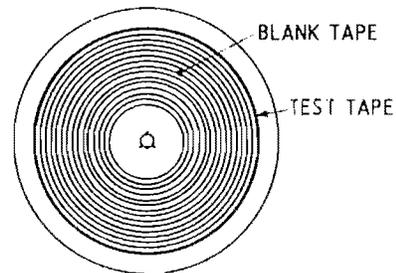

Fig. 7-2 Test Tape Loading
A flutter test tape is used for measuring tape speed. Since tape tension affects tape speed, it is important for accurate measurement that the flutter test tape used is attached to the end of a full reel of blank tape as shown in Fig. 7-2, and is used with the REEL push-button set to the appropriate reel size. Proceed as follows:
- (1) Place the PITCH CONTROL in the fixed position and set all RECORD switches to their off "out" positions.
- (2) Connect a flutter meter to LINE OUT and set the MONITOR switch to the TAPE position.
- (3) Set the SPEED switch to "HIGH" and use the test tape at its appropriate speed.
- (4) Attach the test tape to a 10-1/2 inch NAB reel as shown in Fig. 7-2, place the test tape on the supply reel table, thread the tape, and set the REEL switch to the LARGE position.
- (5) Place the recorder in the play mode and note the reading on the frequency counter. The reading should be between 2994 and 3006 Hz (3000 Hz  $\pm$  0.2 %).
- (6) Repeat the procedure at a point towards the end of the reel, for a 7 inch EIA reel, and for low tape speeds.
- (7) If adjustment is necessary, refer to Section 6.4.
It is important that the flutter test tape used is attached to the end of a full reel of blank tape as shown in Fig. 7-2, and is used with the REEL push-button set to the appropriate reel size.
- (1) Place the PITCH CONTROL to the fixed position and set all RECORD switches to the off "out" position.
- (2) Connect a flutter meter to the LINE OUT of the inner track channel and its MONITOR switch should be in the TAPE position.
- (3) Set the selector switch of the flutter meter to the NAB weighted position, set the SPEED switch to H1, and use the test tape at an appropriate speed.
- (4) Attach the test tape to a 10-1/2 inch NAB reel as shown in Fig. 7-2, place the test tape on the supply reel table, thread the tape, and set the REEL switch to the H position.
- (5) Place the recorder in the play mode and note the reading on the flutter meter. The reading should be as shown in Table 7-3.
- (6) Repeat the procedure at a point towards the end of the reel, a 7 inch EIA reel, and at low tape speeds.